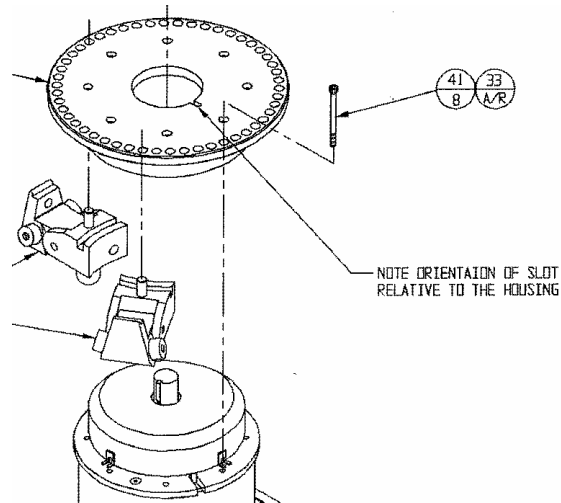

Figure 8 ROM Ring Installation Torque
- 2.25. Re-install the ROM ring. Apply blue Loctite to the ROM Ring Screws and tighten to 100 INCH-POUNDS (70 NEWTON-CENTIMETERS). (Figure 8, Items 33 and 41).